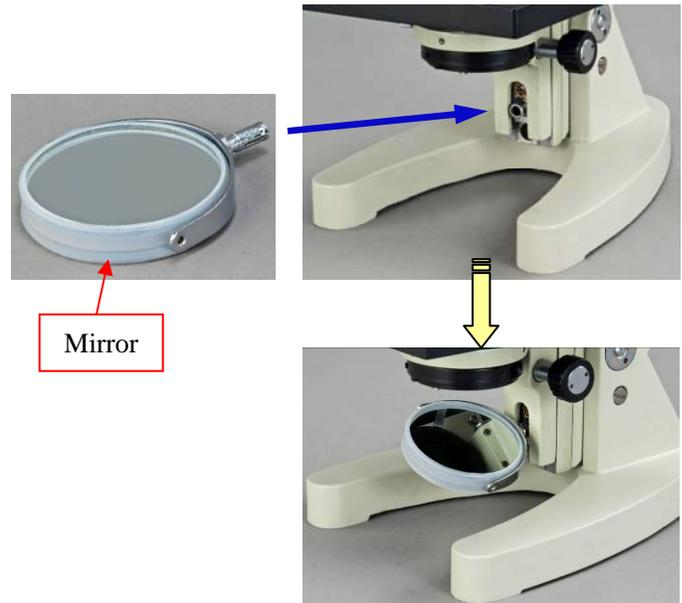

Fig. 5
- 3) Insert the mirror into the hole on the microscope base. See **Fig. 5**.